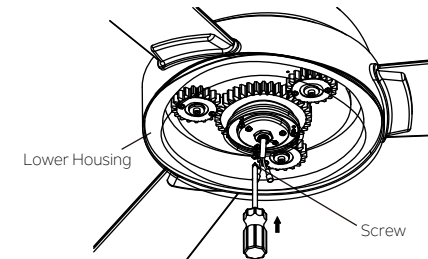

Fig. 22
Step 2. Attach the lower housing to motor body, insert three (3) screws previously removed into the holes and securely tighten them. (Fig. 22)